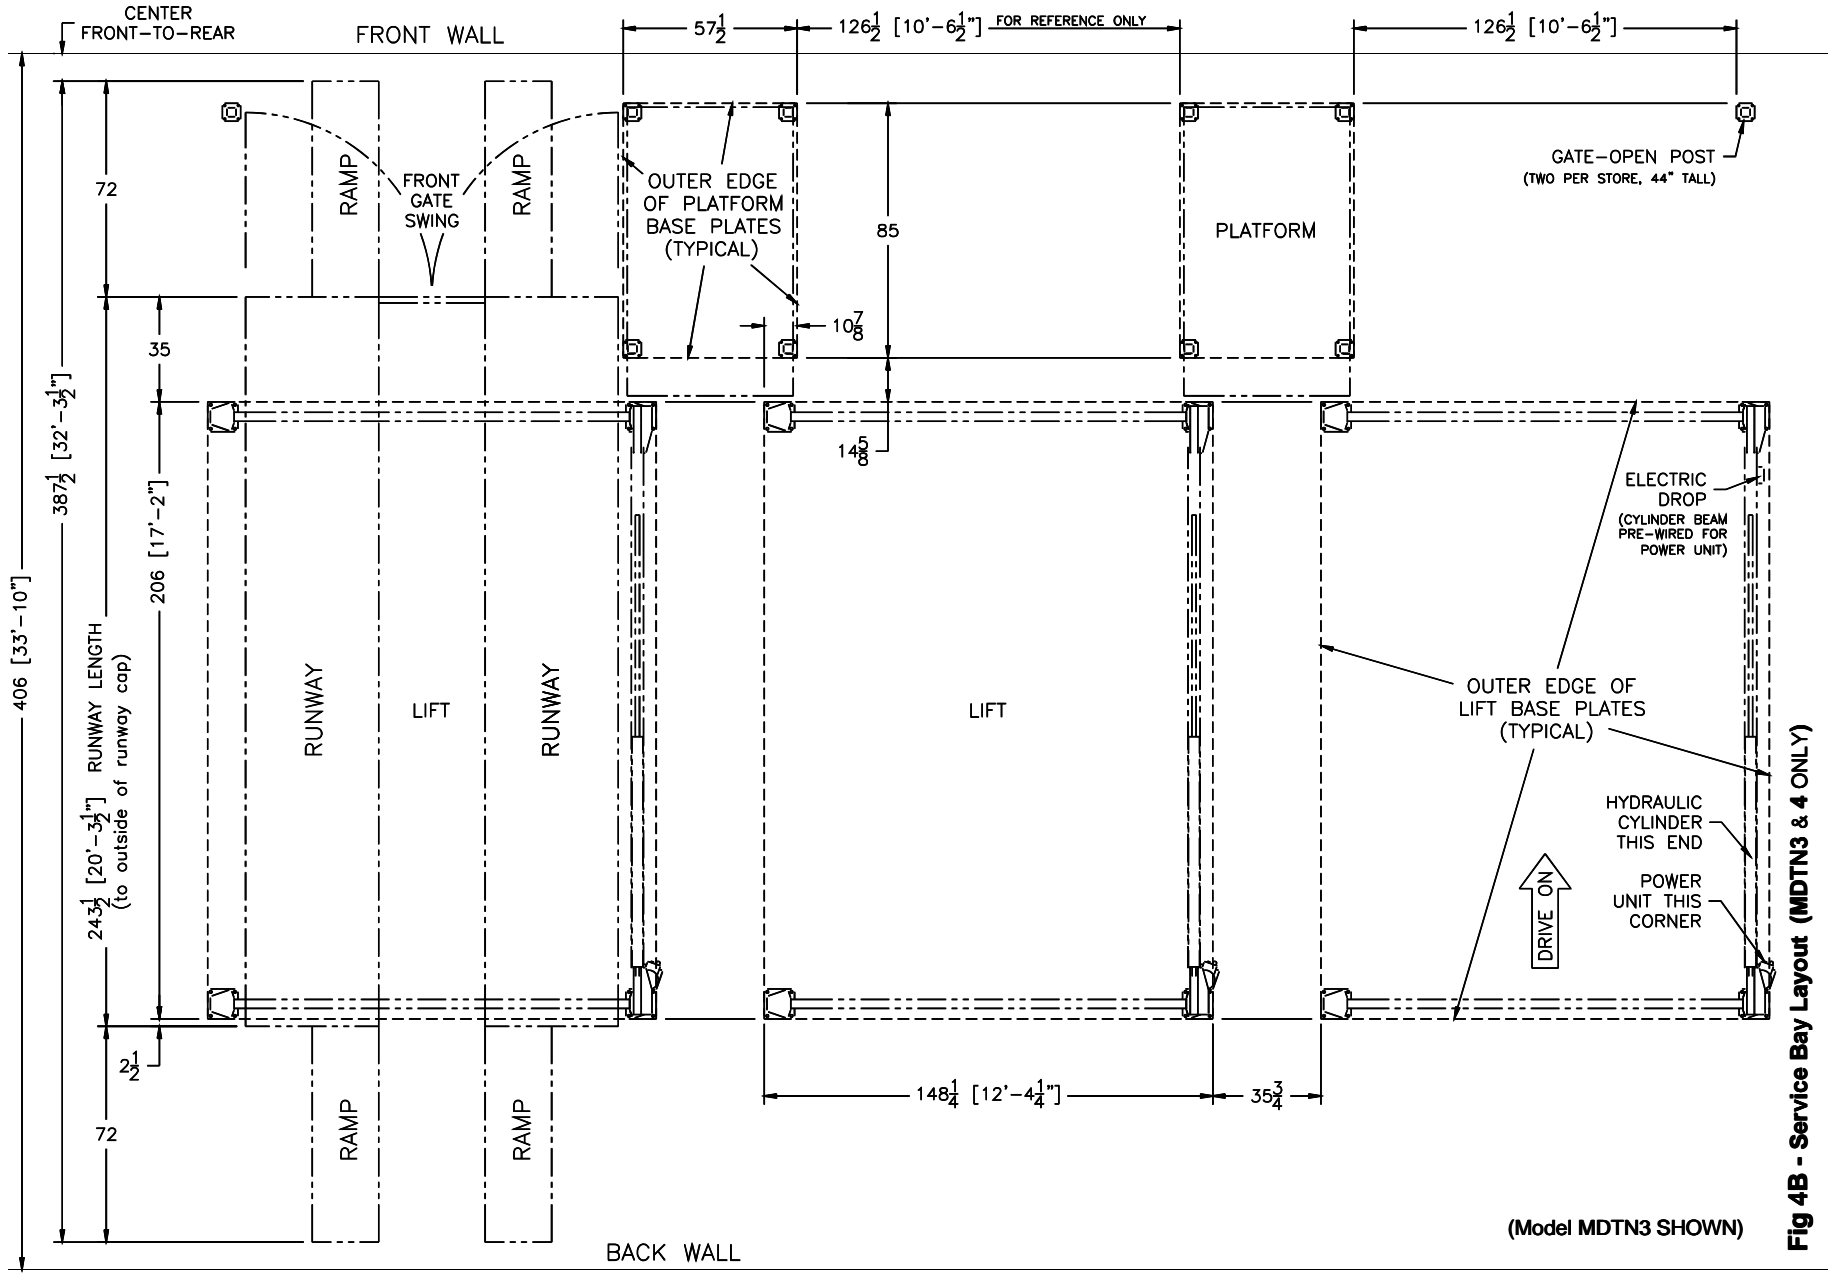

Fig 4B - Service Bay Layout (MDTN3 & 4 ONLY)
- MDTN3 & 4 installation see Fig 4B